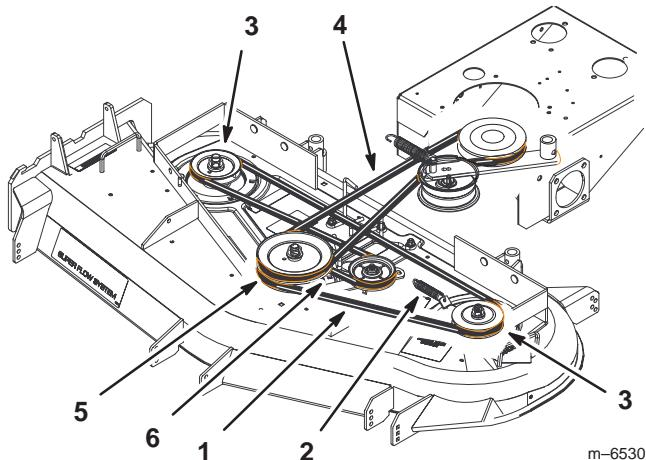

Figure 67
5. Disconnect the idler arm spring to relieve tension on the idler arm and idler pulley, then remove the worn deck belt (Fig. 67).
6. Install the new deck belt around the two outside spindle pulleys, the idler pulley, and in the lower groove of the center spindle pulley (Fig. 67).
7. Connect the idler arm spring (Fig. 67).
9. Adjust deck belt guide an 1/8 inch (3 mm) from belt (Fig. 67).